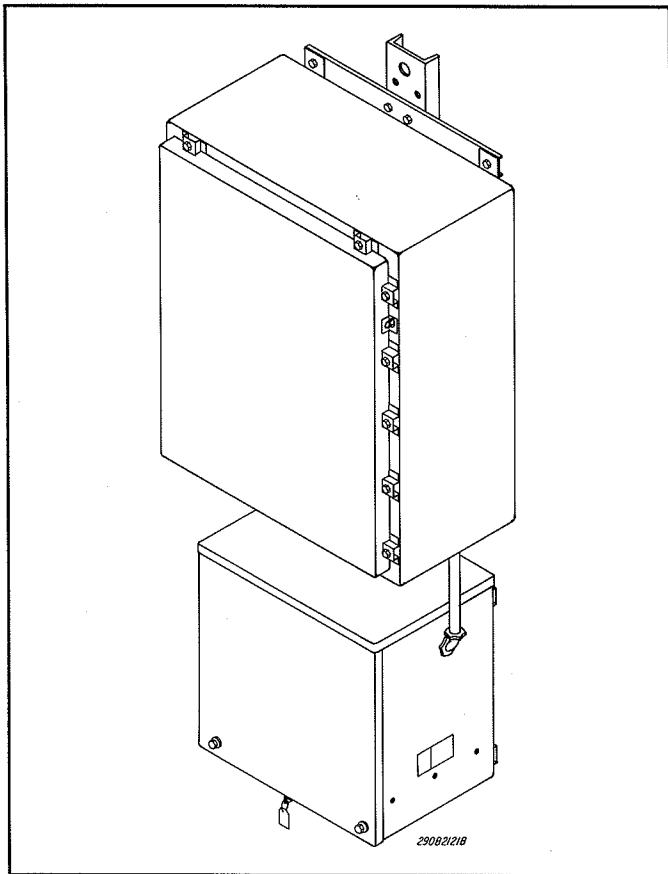

Figure 1-1. Model EOWS* Control Unit and Battery Box.
The Control Unit consists of two cabinets, channel mounted for ease of installation (see figure 1-1). The upper cabinet (NEMA 4 enclosure) houses all the necessary electronics and controls for producing and amplifying up to seven signals (six standard plus one optional) and public address (PA). The amplifier (Amplifier Module) and optional equipment all employ modular construction for easy removal without disconnecting a large number of wires.